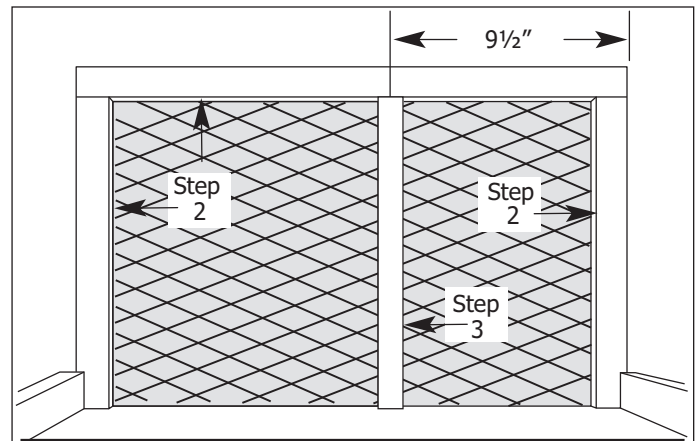

Figure 2-63.
2. Cut and attach the (1) 1-1/2" x 3/8" x 26-1/2" long seal to 25-1/2" long. Attach (2) 1-1/2" x 3/8" x 14" long seals as shown. To attach the seals, remove the backing paper from the seal. Do not touch adhesive. Press seals firmly in place. (See Figure 2-63)
3. Attach 1" x 3/4" x 14" long seal to the inside of the grille panel. (See Figure 2-63)